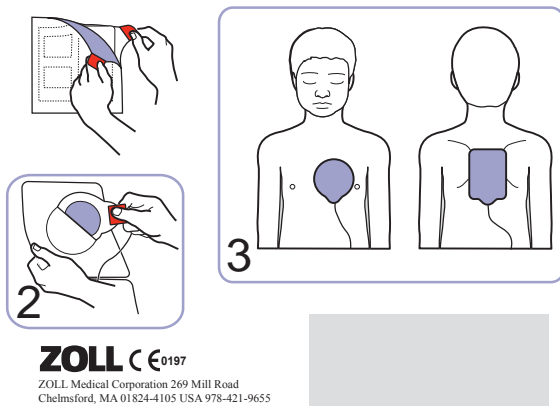

Figure 6: Placement of pedi padz II
1. Tear open the electrode package and unfold the inner package to expose the electrodes. Place the electrodes on the patient according to the graphics on the package (see Figure 6).
2. Remove the round electrode from its backing material and place it on the patient's chest (as shown in Figure 6).
4. Roll the patient onto his/her chest, remove the square electrode from its backing and place it on the patient's back (as shown in Figure 6).